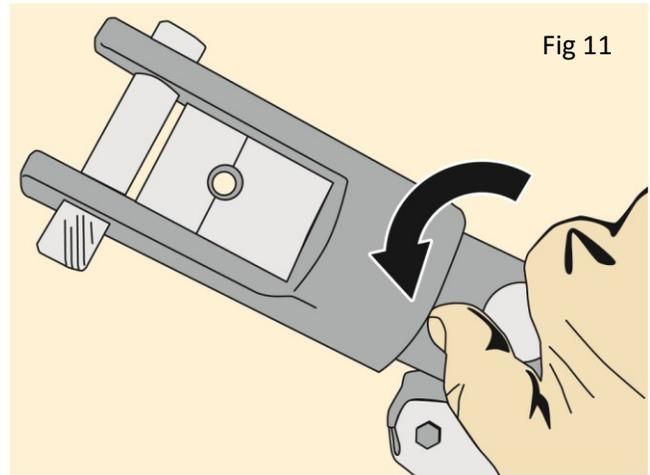

Fig 11
- a) Turn the knob on the Cable Crimper counterclockwise to open the jaws and position the fitting 1/8" from the end of the fitting (Fig. 11).
- Screw on the FineLine® Threaded Plug (Fig. 11).